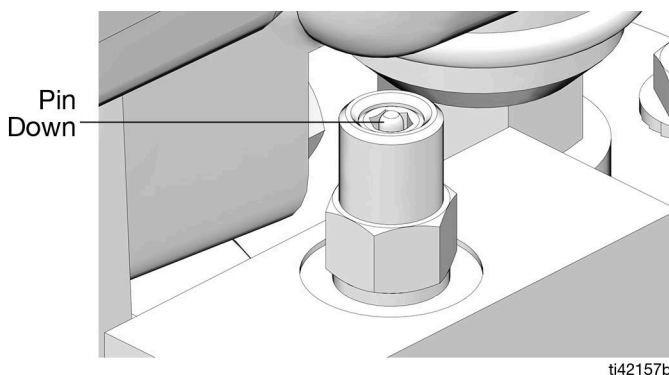

FIG. 2
3. Verify that the Auto-Fill Shut Off pin is down, indicating it is reset (FIG. 2). See the Auto-Fill Shut Off instruction manual.
Make sure Auto-Fill Shut Off valve pin is down. See FIG. 2, page 5 and/or Auto-Fill Shut Off Valve manual.